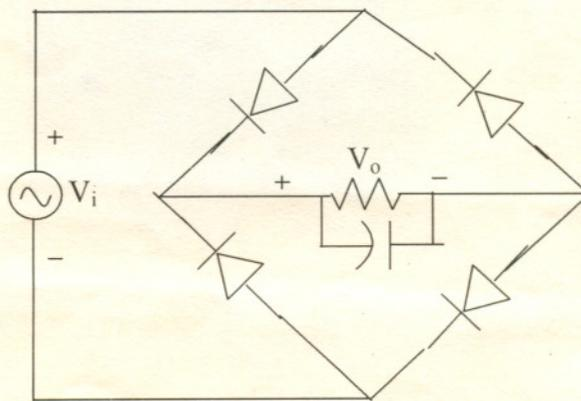

Fig. 1.2 Circuit diagram for bridge rectifier
1. Construct the circuit of Fig. 1.2 without the capacitor. Observe and sketch V_i , V_o . **DO NOT TRY** to observe V_i , V_o simultaneously. Measure ac and dc components of V_o with multimeter.
2. Connect $1\mu\text{F}$ capacitor as shown in Fig.1.2 and repeat step 1.
1. Calculate the average and effective values of the load voltage (V_o) in circuits of Fig. 1.2 without capacitor. Compare these values with those obtained with the multimeter.